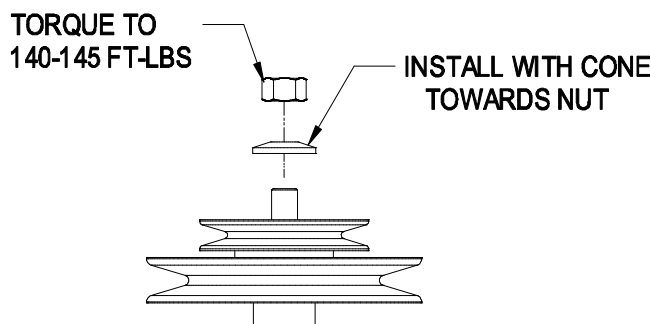

FIGURE 6
- 3.3.6 Install the jackshaft (Item 12) onto the right spindle shaft. Install the spring disk washer and nut. Torque the sheave nut to 140-145 ft. lbs. Make sure that the spring disk washer cone is installed towards nut. See Figure 6.